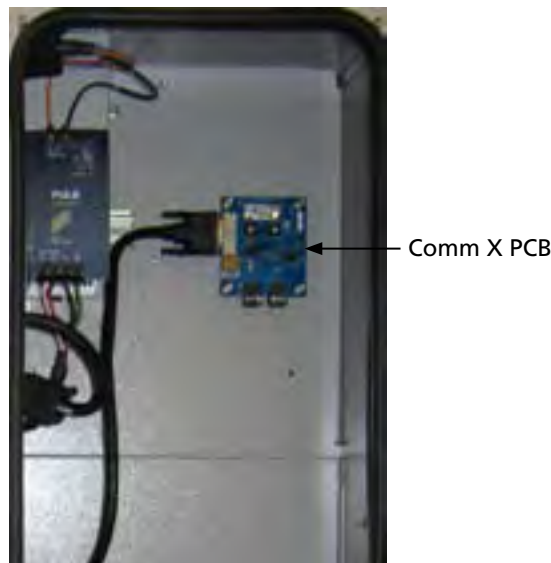

Figure 5-1 Comm X PCB in the Data Monitoring Section
- B. Connect the Modbus Ethernet cable to the Ethernet port on the Comm X PCB. The Comm X PCB is located in the Data Monitoring Section in the right upper cabinet of the inverter. See Figure 5-1 for the location of the Ethernet port.